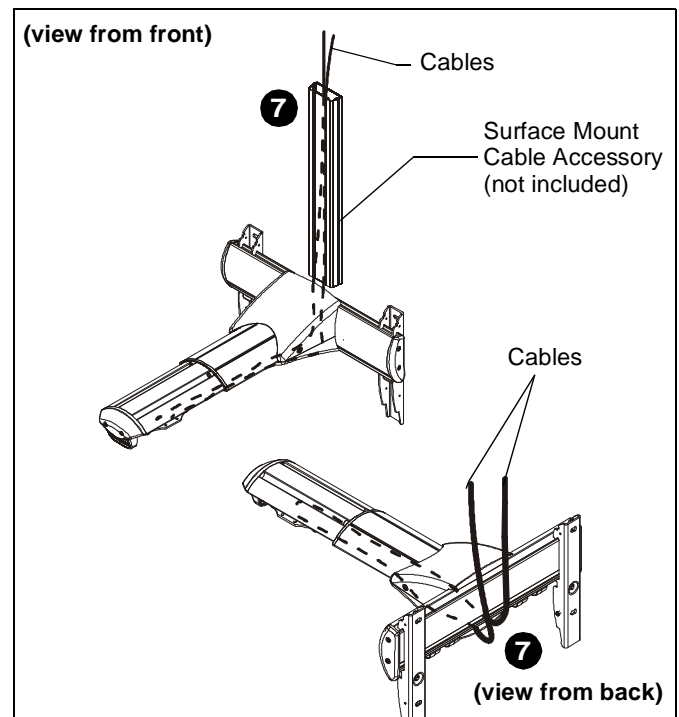

Figure 58
7. Thread cables down through a surface mount cable accessory (not included), then behind and into the wall bracket. (See Figure 58) **Proceed to Step 8**